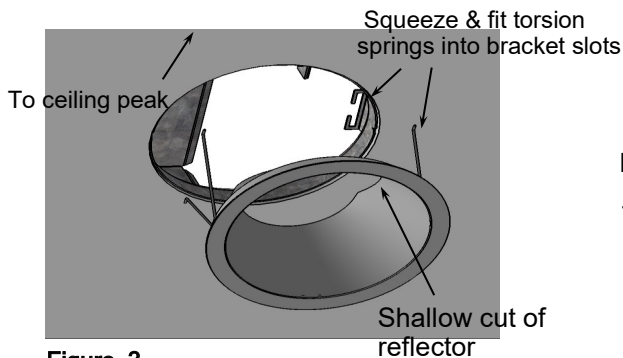

Figure 3
1. To install *lower trim assembly*, align shallow cut of reflector towards ceiling peak. Squeeze the two support springs inwards, while inserting into the frame opening in the housing. Slide trim up and fully seat against ceiling surface. (Figure 3) Clean reflector surface with a soft towel and glass cleaner, if necessary, to prevent scratching of the polished aluminum surface.